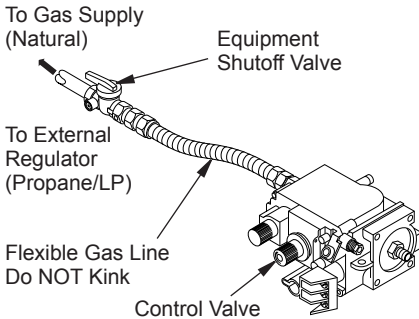

Figure 32 - Connecting Flexible Gas Line to Millivolt Valve
3. Attach flexible gas line from gas supply to control valve (see Figure 32, page 23).